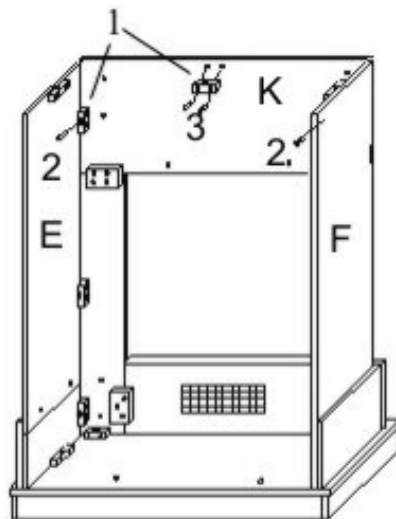

Fig. 9
**Step 9:** Using 2 PLASTIC CONNECTORS (1), attach the FRONT UPPER PANEL (K), to the LEFT & RIGHT UPPER SIDE PANELS (E, F) with 2 KD SCREWS (2).
**Step 10:** Attach 1 PLASTIC CONNECTOR (1) TO FRONT UPPER PANEL (K) with 2 SHORT KD SCREWS (3). See Fig.9.